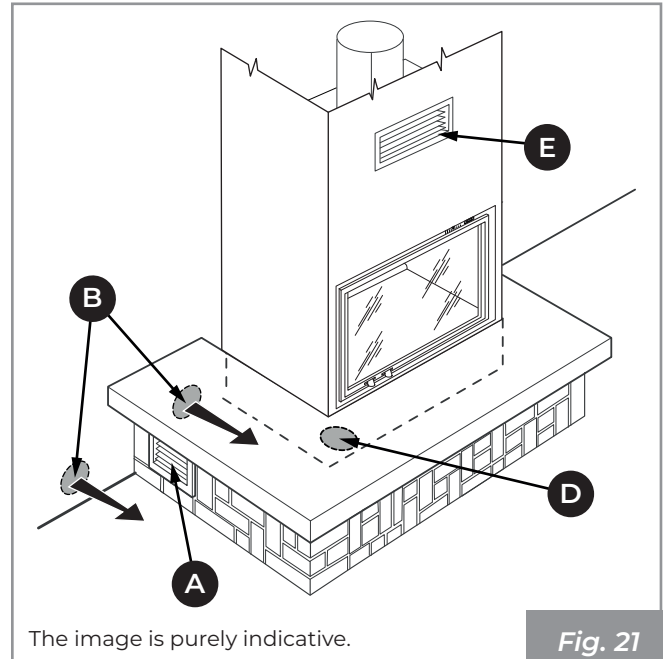

Fig. 21
- **Fig. 21:** lower grille (A) provided in the cladding and external air intake (B) for the recirculation of ambient air to be created inside or outside the cladding.